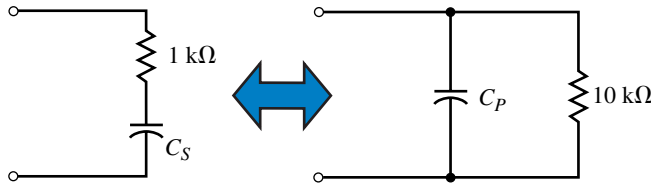

FIGURE 21-64
22. Determine the values of C_s and C_p in farads, given that the networks of Figure 21-64 are equivalent at a frequency of 48 krad/s.